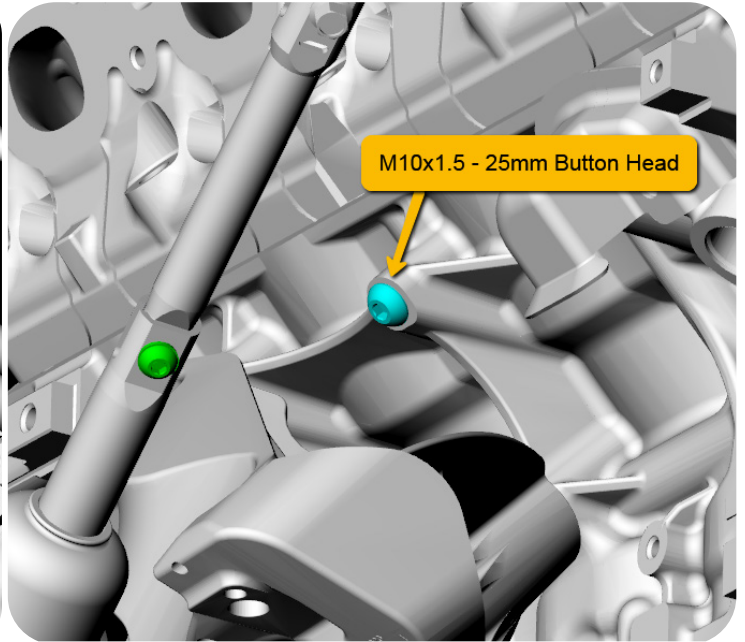

Figure.2
- Replace the factory bolt on block to supplied M10x1.5-25 button head. - **See Fig.2**